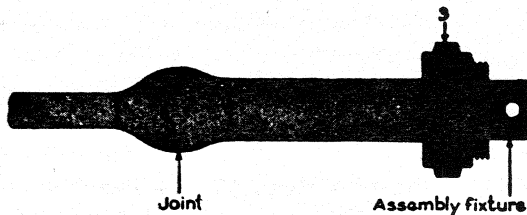

Fig. 11
- 6. Wipe the joint between cable and sleeve, Fig. 11.